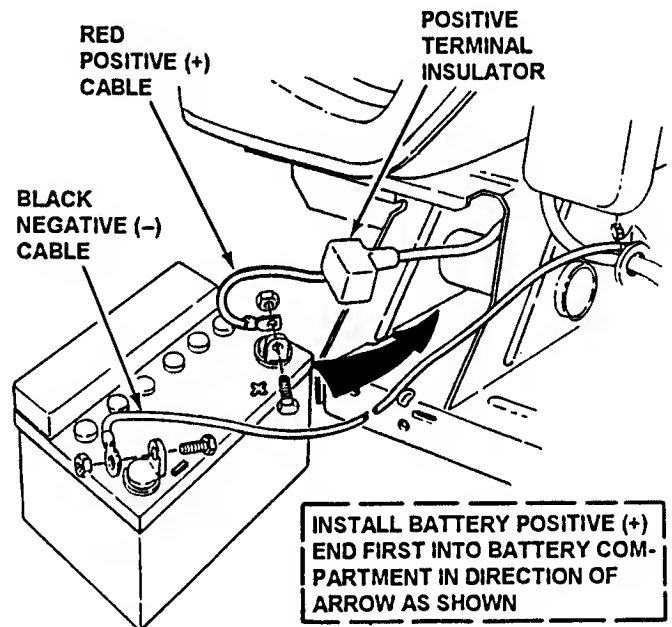

FIGURE 4.27
4. Observe and note cable positions on battery. See Figure 4.27.
Cables must be connected to battery terminals in the proper position as show in Figure 4.27. Never attempt to charge battery while installed on the Rear Engine Rider. Never use "BOOST" chargers on the battery.